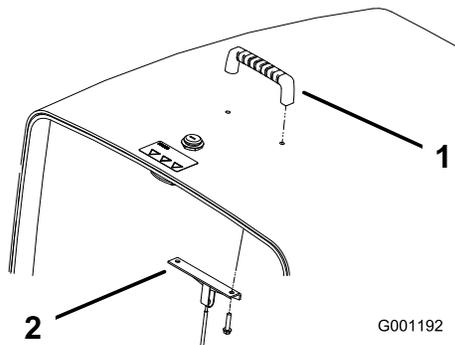

Figure 5
2. Mount the handle and the cable bracket to the hood with 2 screws (Figure 5).